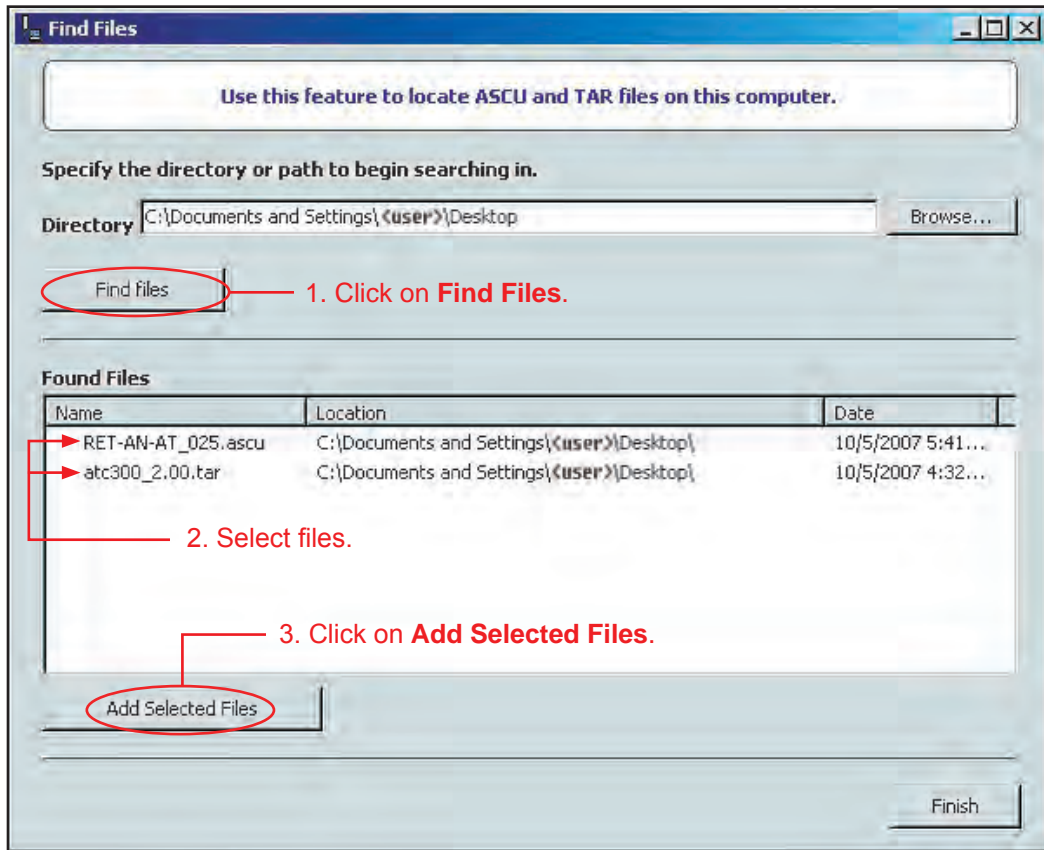

Figure 9-5. Search And Selection Of Controller Files To Be Uploaded.
4. Click on the **Find Files** button again (Figure 9-5).
6. Click on the **Add Selected Files** button (Figure 9-5).